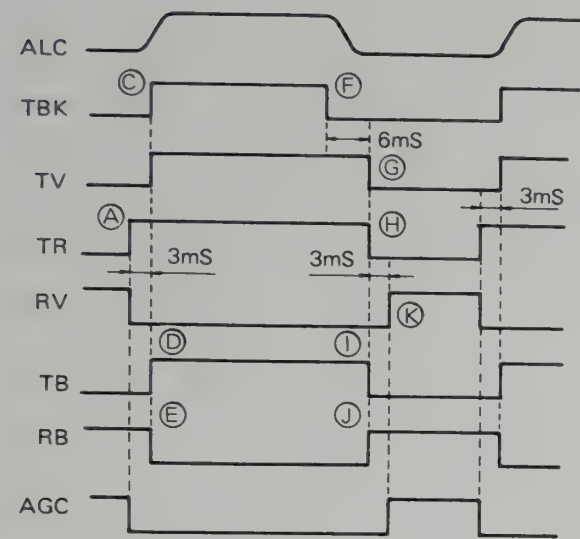
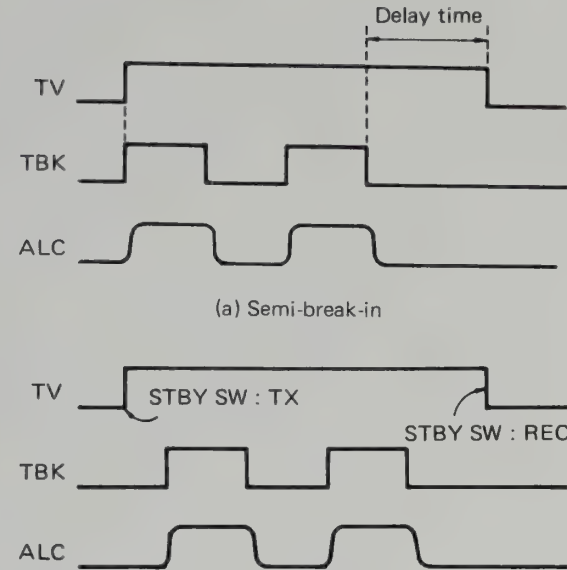

Fig. 18 T-R timing chart
Fig. 19 CW operation timing chart
The TS-940 has five kinds of timing signals for switching between transmission and reception; TV, RV, TR, TBK and ALC. Fig. 18 shows the timing relationship between these signals. This is the timing chart for SSB, MF, FSK and CW full break-in keying. The timing charts for CW keying in the CW semi-break-in and standby modes are shown in Fig. 19, (a) and (b).
In modes other than CW, output keying is unnecessary, but the timing remains the same. Fig. 19, (a) and (b) give the timing charts for CW semi-break-in operation and CW mode with just the standby switch. If Fig. 19, the timing of RV, TR, etc. are omitted, as they are the same as those in Fig. 18.
Thus, a high voltage is supplied to the TR terminal via D9. (Fig. 18— (A) ) (As Q7 is on in the receive mode, the TR terminal is low.)
Therefore, as soon as the transistor level becomes high RV voltage level becomes low. (Fig. 18— (B) )
The output of inverter IC3 2/6 enters the delay circuit I composed of IC1 3/4, R29 and C13. The output signal delayed approx. 3ms (H level) is applied to IC1 3/4, pin 4. (Fig. 18— (C) ). This signal becomes the TBK keying signal in the CW operating mode.
Based on the TV voltage, an in-phase TB voltage and inverted RB voltage are generated. (Fig. 18— (D) and (E) ). The leading edge (RX → TX) of the timing circuit will now be discussed. When the key is up in the CW operating mode, as the output (pin 13) of the STBY switch gate 3 changes from high to low level and the output (pin 3) of gate 2 changes from low to high level, the output (pin 10) of one-shot multivibrator IC2 3/4 goes low and D4 turns off.
This signal is applied to the delay circuit I and after 3ms. The TBK line voltage breaks. (Fig. 18— (F) )
BK gate 7, pin 1 is high because the key is up. The BK gate 7 output signal is applied to delay circuit II and after approx. 5ms, the signal becomes low level, and D23 turns off to change the TV gate 6, pin 13 from a high to a low logic level. Therefore, the output (pin 10) of TV gate 6 changes from high to low, and the TV voltage is lowered. (Fig. 18— (G) )
At the same time, the TB voltage breaks and inversely, the RB voltage rises. (Fig. 18— (I) and (J) ) In addition, as the TV voltage being supplied from D36 to the TR line breaks at the same time, the TR voltage changes from high to low level. (Fig. 18— (H) )
Further, the output signal of delay circuit II is applied to the integrating circuit of delay circuit III, where it becomes a 3ms delayed signal, and this output changes the RV gate 5, pin 3 from a low to a high logic level. (At this time, pin 4 and pin 5 are high level.) Thus, the output of RV gate 5 changes from low to high and RV voltage rises. (Fig. 18— (K) ) When a temperature protection signal or band protection signal are applied from the filter unit to the BTP terminal, the RV switching circuit functions via D21 and generates RV voltage. At the same time as TV gate 6, pin 12 is changed from high to low level by inverter IC3 6/6, the output signal level is also changed from high to low and the TV switching circuit turns off. Thus, TV voltage drops and the transceiver goes into the receiving state.